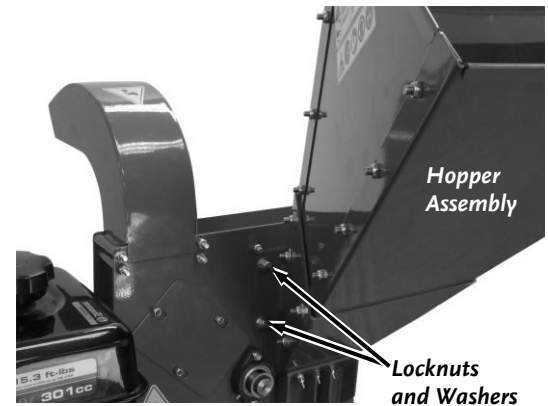

Figure 30
- Remove the two Locknuts and Washers at the rear side of the Hopper (**Figure 30**).